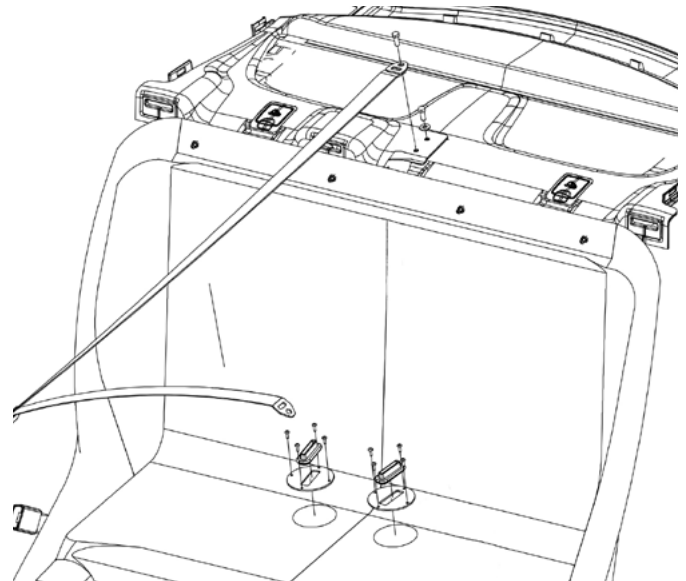

Fig. 9
- A. Now install the (3OSB003) seat belt harness on the passenger side. Position the seat belts so the adjustment strap goes over the chest. Fasten the two seat belts at the top with the single 3/8" (3X131) bolt off the rear deck. Feed the seat belt rubber grommets and covers onto each of the lower portion of the belts and fasten at the bottom through the seat holes using the OEM threaded studs and nuts. Slide the black plastic covers and rubber grommets over top of the holes in the seat and use the 4 (3X72) screws to secure in place. (See Fig. 9 on the next page)